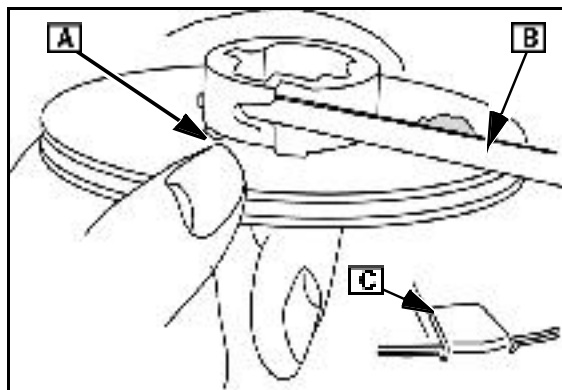
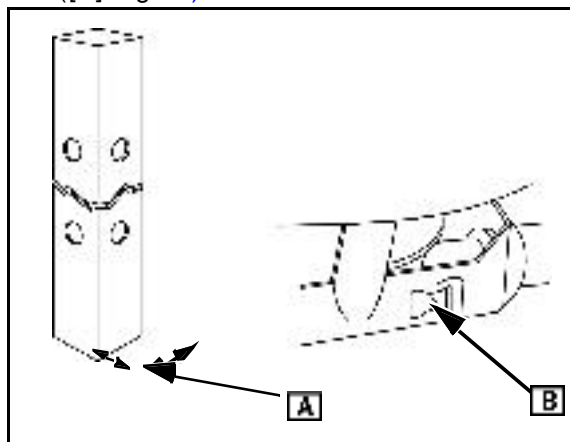

Fig. 29
Fig. 30
3. Insert either end of spring into blower housing slot and hook into pulley (A).
4. Place a dab of grease (B) on steel pulley.
5. Set pulley into housing. Bend tang down. Adjust tang gap to **0.063 in. (1.6 mm)** (C Fig. 29). Depress pulley fully into rewind housing when measuring tang gap.
6. Place a **0.75 in. (19 mm)** ([A] Fig. 30) square piece of stock into center of pulley hub.
With pulley oriented as in Fig. 29, wind the stock and pulley counterclockwise until spring is wound tightly and end of spring seats in tapered hole ([B] Fig. 30).